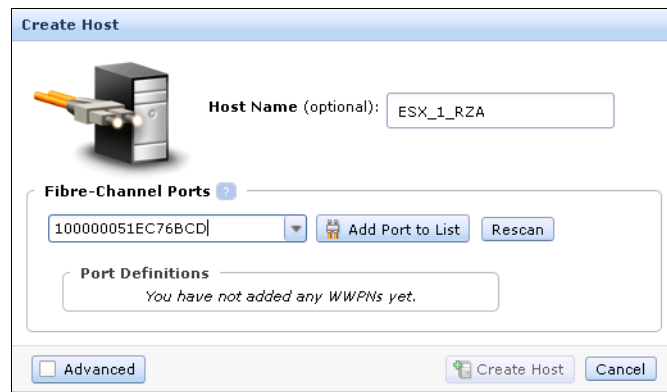

Figure 4-20 Add a port to a list
3. Select the WWPN for your host and click **Add Port to List**, as shown in Figure 4-20.